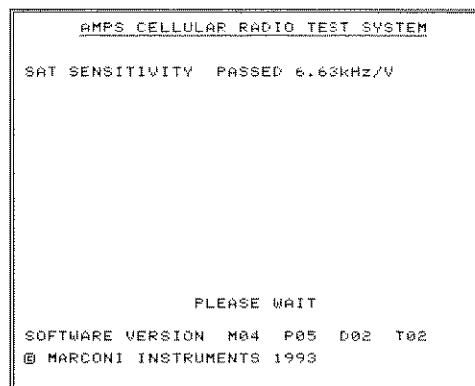

Fig. 3-7 Display following CRTS mode selection
- (2) Press the CRTS key. The display changes to **AMPS CELLULAR RADIO TEST SYSTEM** as shown in in Fig. 3-7. The 2957D or 2960D goes through a self test. When an Adapter is fitted to a different 2955, it goes through a series of self tests which include self calibration. For each self test, a line appears on the display and, if passed, is replaced by the next one. When a failure occurs, the CONTINUE key appears together with an appropriate message.
- (3) To retain the display line for a test and subsequent tests, press the Tx TEST key during that test. This effect is cancelled when the Tx TEST key is pressed again.